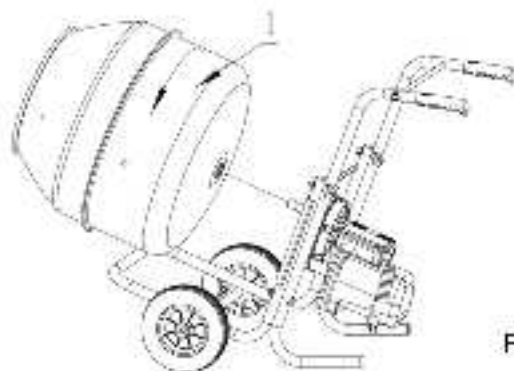

Fig.5
It is recommended to lightly grease the threaded shaft before assembling the drum. Screw the drum (1) onto the threaded shaft, turning clockwise until tight. Do not over tighten. (Fig.5)